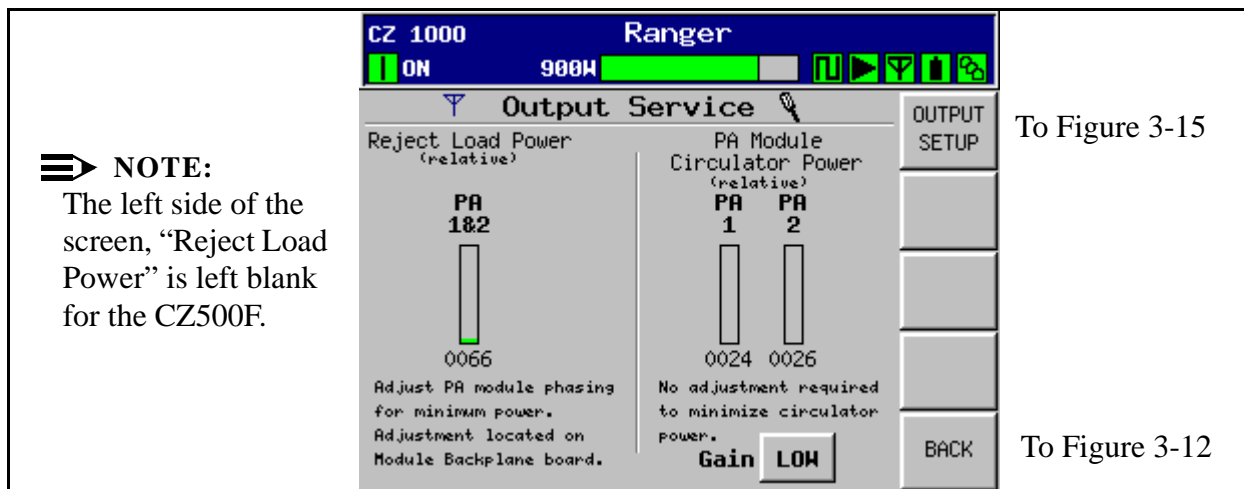

Figure 3-13 Output Service Screen
To Figure 3-13
The goal is to minimize the PA module combiner reject load power reading in Figure 3-13, by adjusting the phase of module #2. The phase of PA module #1 is fixed. The “PA 1&2” reading should be less than 0030 with the GAIN button at the bottom of the screen set to LOW. If the GAIN button is pressed it will toggle to high, increasing the detector gain and allowing for finer resolution when adjusting module phasing. The reading should be less than 0100 with the GAIN set to HIGH.
- STEP 3** Adjust R7 (the only potentiometer) on the Backplane Interface board for minimum voltage reading on the voltmeter. This should minimize the reading on the Output Service screen in Figure 3-13. The location of the Backplane Interface board is shown in Figure 2-1 on page 2-2 under the letter N.
This screen is accessed by pressing the Output Setup button on the Output Service screen in Figure 3-13. It is used to calibrate the filter input power and Total cabinet Forward and Reflected power (after the filter).